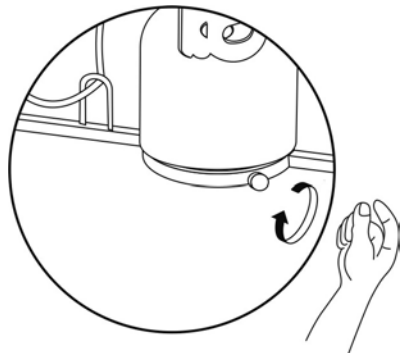

Figure 9
7. Tighten threaded knobs (L) found on tank tray (Figure. 9) so that the LP tank cannot move from side to side. Do not remove plastic cap from end of threaded section.